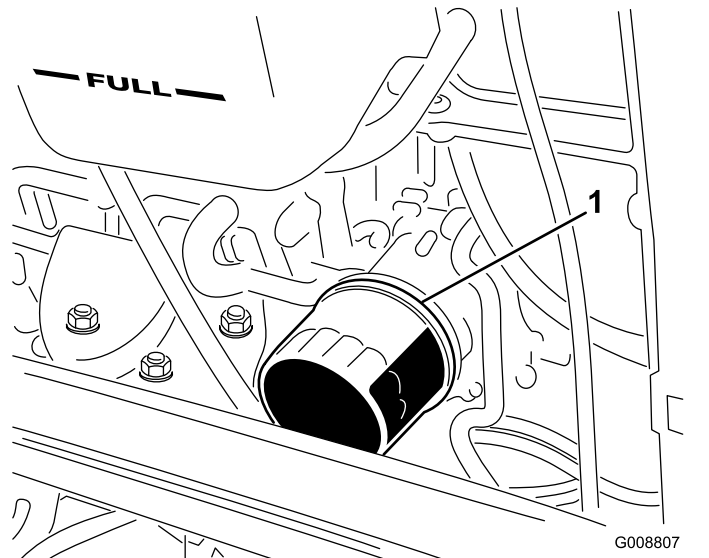

Figure 90
4. Remove the oil filter (Figure 90).